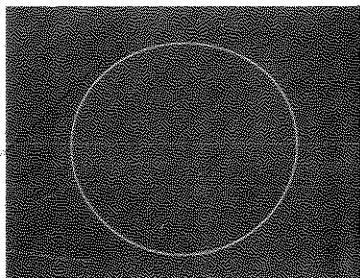

Figure 5-9. Lissajous Waveform.
e. Connect channel A input probe to A2TP6 and channel B input probe to A2TP4 as shown Figure 5-8. The Lissajous figure displayed should be as shown Figure 5-9.